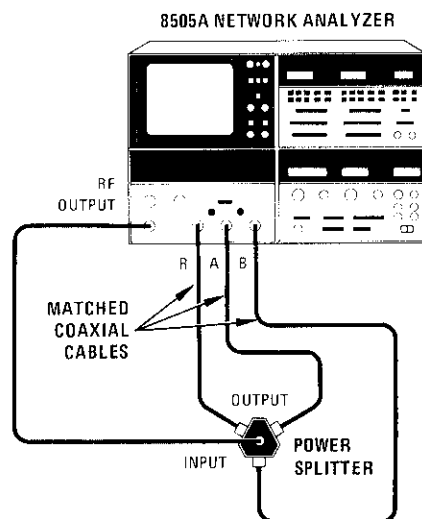

Figure A5-29. Ratio Test Setup
- g. Connect power splitter as shown in Figure A5-29. Set Channel 1 INPUT to A/R. Press DISPLAY REF, then CLR until REL light goes off (if lit).